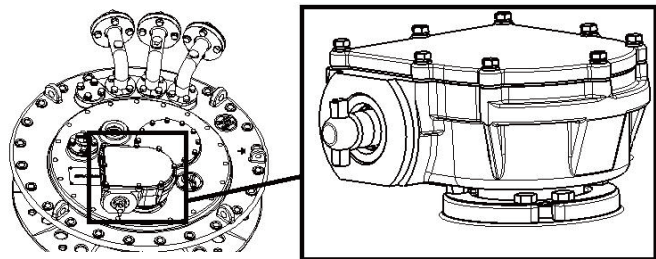

Figure 29 Turn the gear box
- 2) Turn the gear box to the required installation position by rotating the drive shaft of the gear box. (Figure 29)